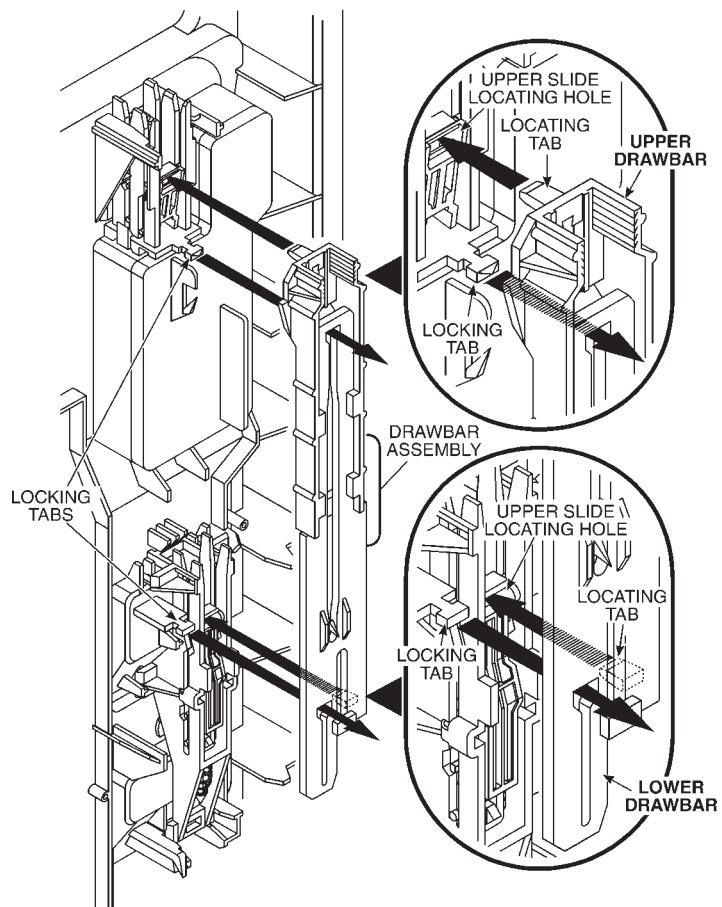

Fig. 1-27
2. Align the lower drawbar holes with the locking tabs and remove the upper and lower drawbars. As you do, note the locating tabs behind them and how they align with their respective locating holes. (Fig. 1-27)
11. Move all slides in both assemblies fully down. Keep the drawbars slid fully together and align the drawbar holes over the locking tabs. Look behind the drawbars and make sure to engage the locating tabs with their respective locating holes. Press the drawbars into position and slide them upward behind the locking tab ears. (*Fig. 1-27*)